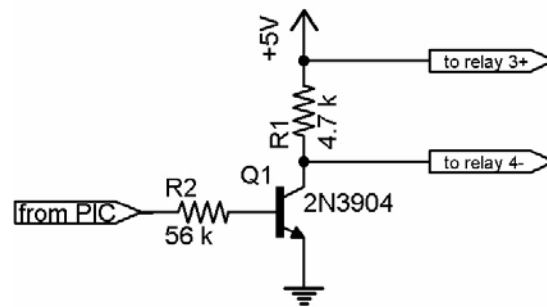

Figure 1. Transistor Switch
The switch box will be used to turn 120 VAC power on and off to a load, the heater. The relay switch in the box needs a control signal from the microcontroller to tell it when to open (power off) and close (power on). While this task could probably be accomplished by sending a HIGH or LOW signal directly to the relay (pin 4-), it is best to limit the amount of current drawn from the microcontroller I/O pin. This safety feature can be easily implemented by using the transistor switch shown in Figure 1. The circuit has the added advantage that the logic is no longer reversed. That is, without the transistor switch, a LOW signal from the microcontroller is required to close the relay and turn the heater on. With the transistor switch a HIGH signal from the microcontroller turns the heater is on.
- Go ahead and construct the switching circuit shown in Figure 1. Make the connection from the PIC to the transistor, but wait until later to make any connections to your switch box.